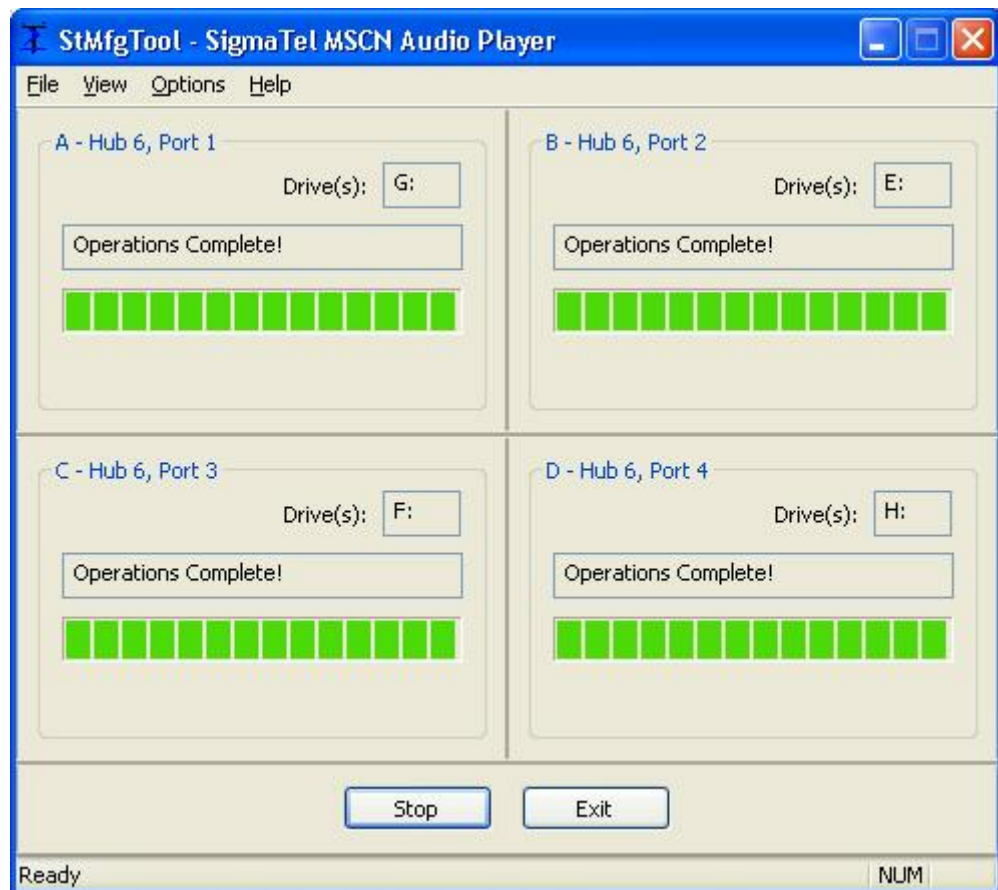

Figure 11
5. Allow all Operation Panels to run to completion (see Figure 11). If the system displays a reboot dialog (see Figure 12), answer *No* if the Manufacturing Application does not look like Figure 11. Alternatively, leave the reboot dialog open, complete the steps in this procedure, and click *Yes* to initiate Step 3.